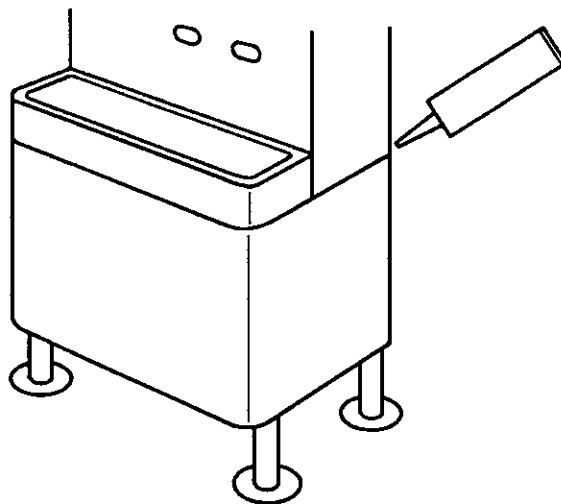

Fig. 7
- 6) Seal the seam all around between the ice dispenser and the Cabinet Stand with food grade silicone. See Fig. 7.